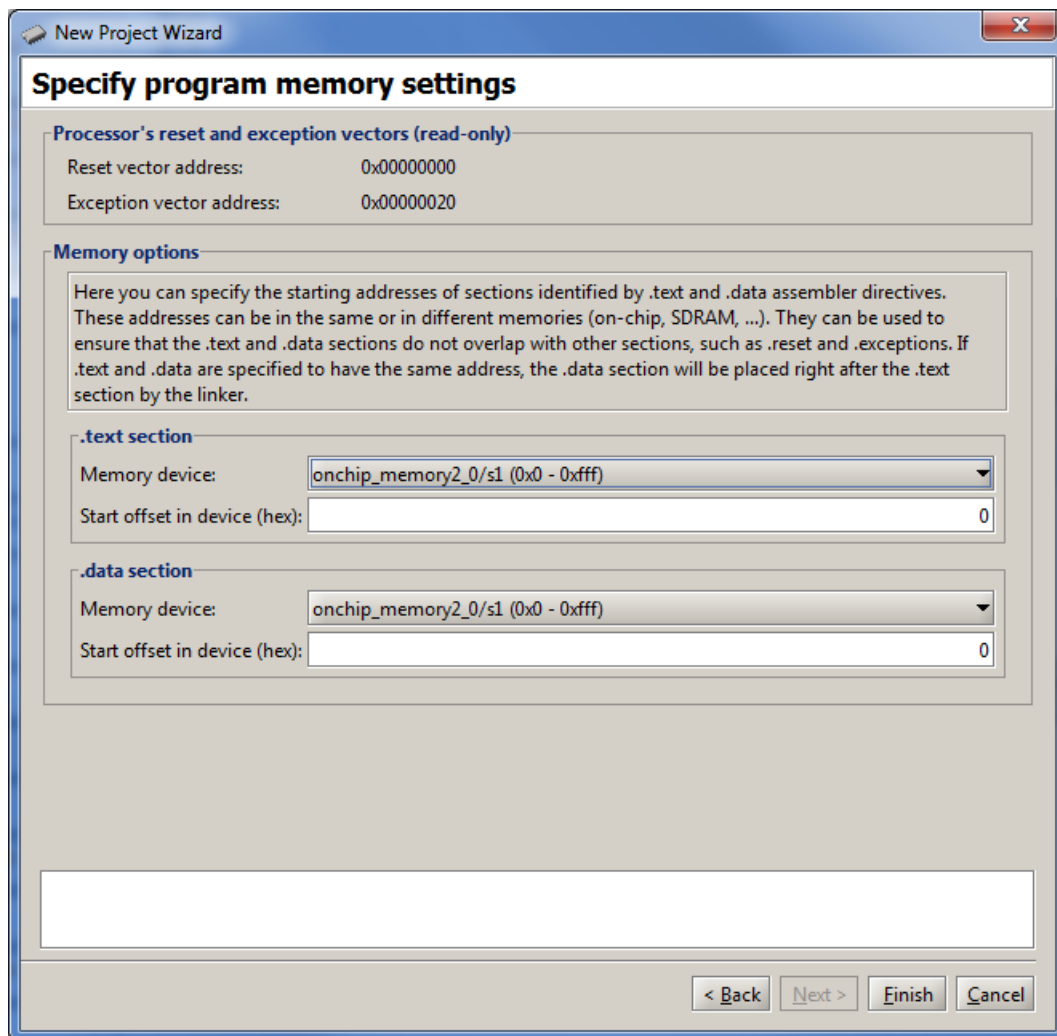

Figure 32. Specify where the program will be loaded in the memory.
7. The Monitor Program also needs to know where to load the application program. In our case, this is the memory block in the FPGA device. The name assigned to this memory is *onchip_memory*. Since there is no other memory in our design, the Monitor Program will select this memory by default, as shown in Figure 32.